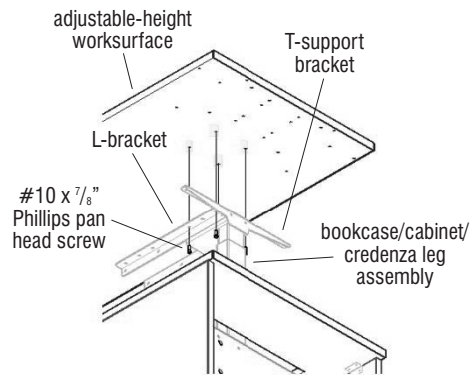

Figure 4 - Adjustable-Height Bookcase Leg - Adjustable-Height Cabinet Leg - Adjustable-Height Credenza Leg
1. Carefully position the worksurface on top of two adjustable-height leg assemblies. One side of the worksurface at a time, align two mounting holes on each L-bracket with the four pre-drilled holes in the worksurface, referencing the correct illustration that matches your configuration for correct mounting hole locations (Figures 4, 5 & 6). Secure each L-bracket to the worksurface using two #10 x 7/8" Phillips pan head screws per bracket at each side of the table (Figures 4, 5 & 6).
2. Using the L- and T-support bracket's remaining mounting holes as templates (four per L-bracket and four for the T-Support bracket on each side of the worksurface), secure the worksurface to the brackets using #10 x 7/8" Phillips pan head screws (Figures 4, 5 & 6).